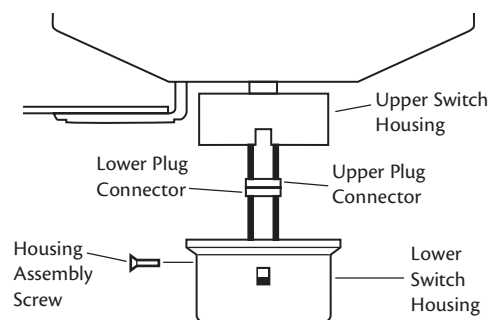

Figure 28 - Connecting the plug connectors
1. Connect the upper plug connector from the motor to the lower plug connector in the lower switch housing assembly. See Figure 28.
2. Place the lower switch housing assembly over the upper switch housing. Align the side screw holes in the upper and lower switch housings. Attach the lower switch housing to the upper switch housing with three #6-32 x 3/8" housing assembly screws. See Figure 28.